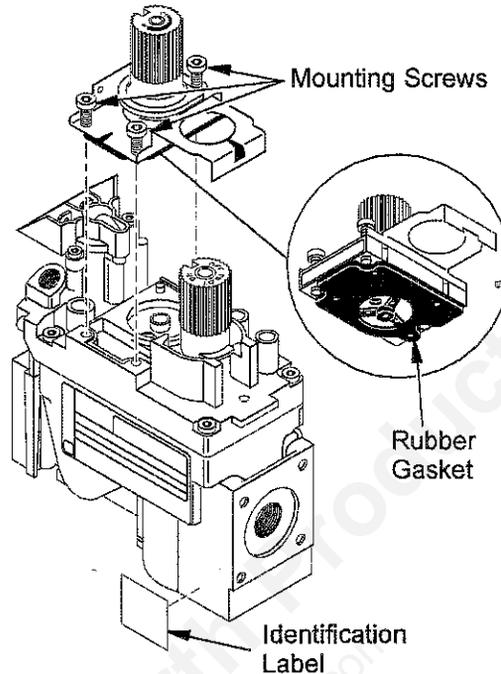

Figure 7 - Installing Pressure Regulator Assembly
2. Insure rubber gasket is properly positioned on new pressure regulator assembly. Install new pressure regulator assembly to valve using new mounting screws supplied with kit. Tighten screws securely (approximately 25 in-lbs.) See Figure 7.
3. Install identification label enclosed with gas valve regulator to valve body where it can easily be seen (see Figure 7).